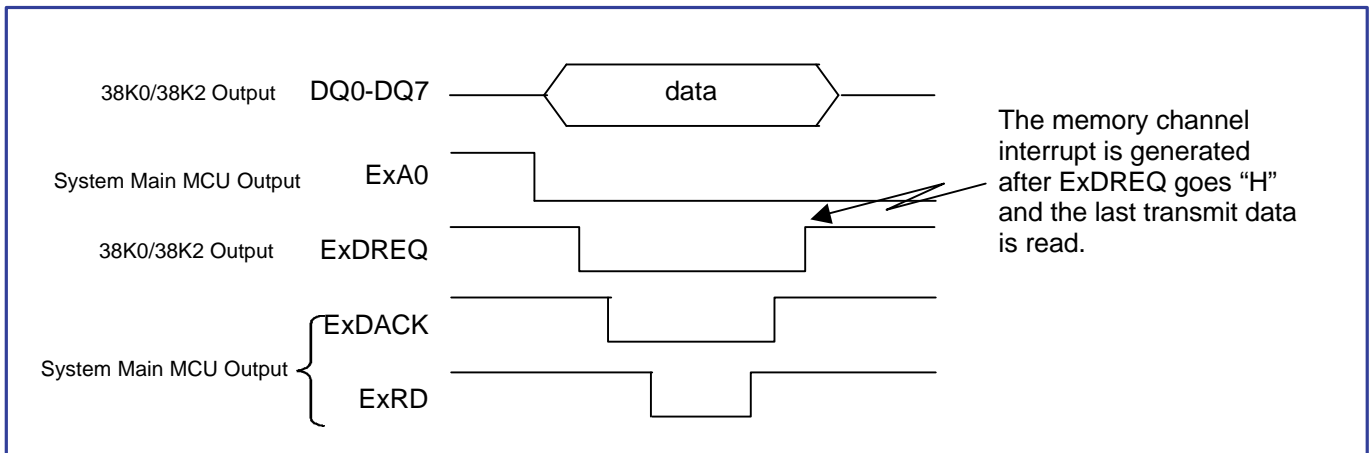

Figure 2.4.3 (1) Memory Channel Transmit Waveform
As shown in Figure 2.4.3 (1), DMA format can be used for memory channel transfers. If 38K0/38K2 detects a falling edge of ExRD when ExAO = "L", ExDREQ = "L" and ExDACK = "L", the data stored in the transmit buffer register up to that point is output to DQ0 to DQ7 byte-by-byte. 38K0/38K2 repeats this operation and, when all data is transferred, generates a memory channel operation completed interrupt.